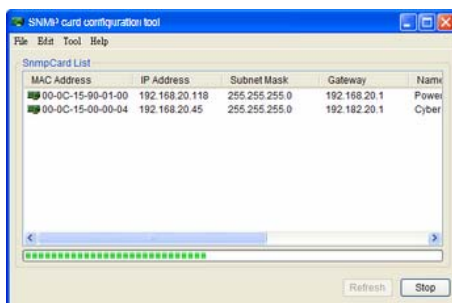

Figure 1. The main window of the "SNMP Card Configuration Tool" program.
3. The main dialog of the "SNMP Card Configuration Tool" program is shown in Figure. 1. The configuration tool will display all the SNMP cards present on the network. The "Refresh" button is used to search the entire local network for SNMP cards.